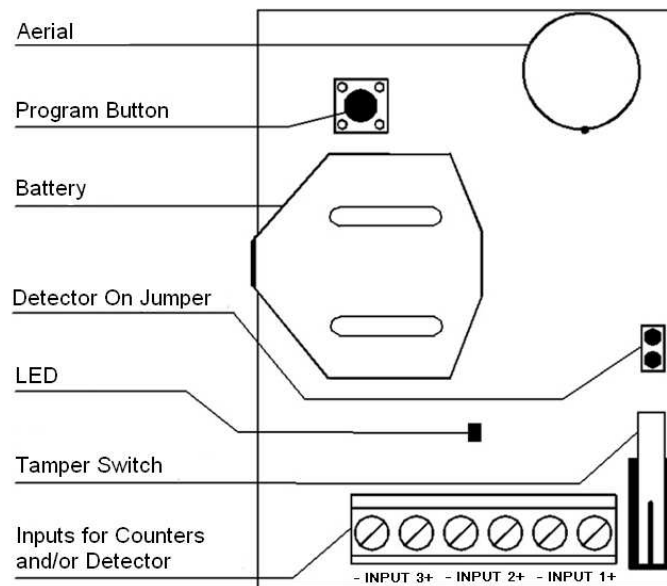

Figure 10-12
*The ASR2 should be programmed while operating in the 30-second poll mode. To switch the ASR2 to this mode run S2000R Configurator (see Section 7) and press down the tamper switch on the ASR2 PC board (see Figure 10-12) for a short time.*
A Link Quality Test is started by a short press on the Prog button (see Figure 10-12). The procedure takes 60 seconds, the detector being indicating the results of the test as shown in Table 10-28.